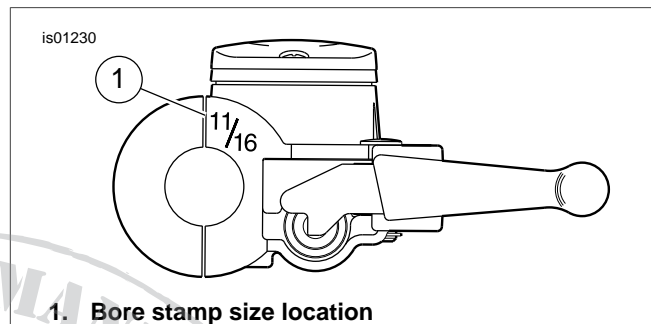

Figure 1. Verify Correct Master Cylinder Bore Size
See Figure 1. Master cylinders designed for dual disc (two caliper) operation have an 11/16 inch (17.5 mm) bore, while those that are designed for single disc (one caliper) operation have a 9/16 inch (14.3 mm) bore. The bore size is stamped (1) on the master cylinder assembly inboard of the handlebar clamp bracket.